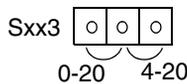
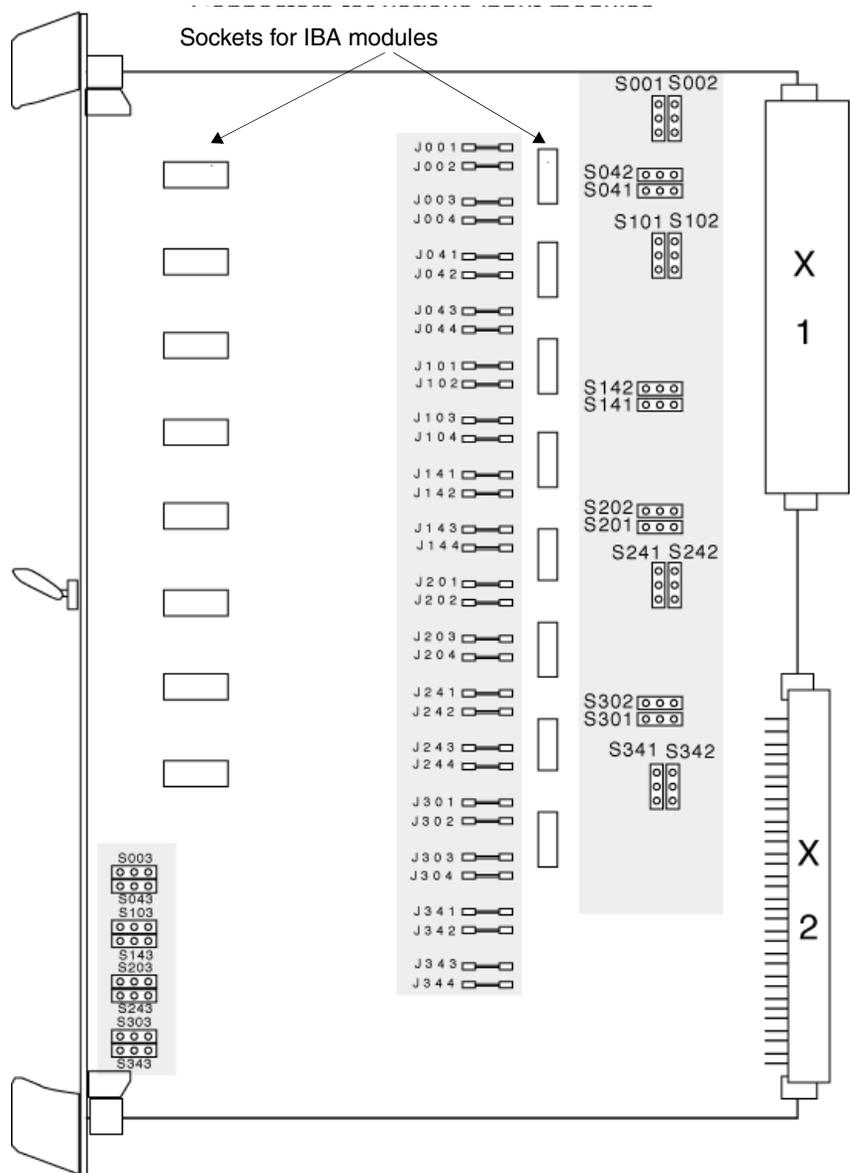

Figure 107. The Sxx3 jumpers.
Figure 108. IBA shown with protection plate removed. The three groups of jumpers are marked. See strapping examples on next page.
The movable links are arranged in two directions, see Figure 106, Figure 107 and Figure 108.
2. Disconnect (cut and remove) links Jxx1¹, Jxx2, Jxx3 and Jxx4 for the channels to be used on the IBA board. See Figure 108 on page 155.